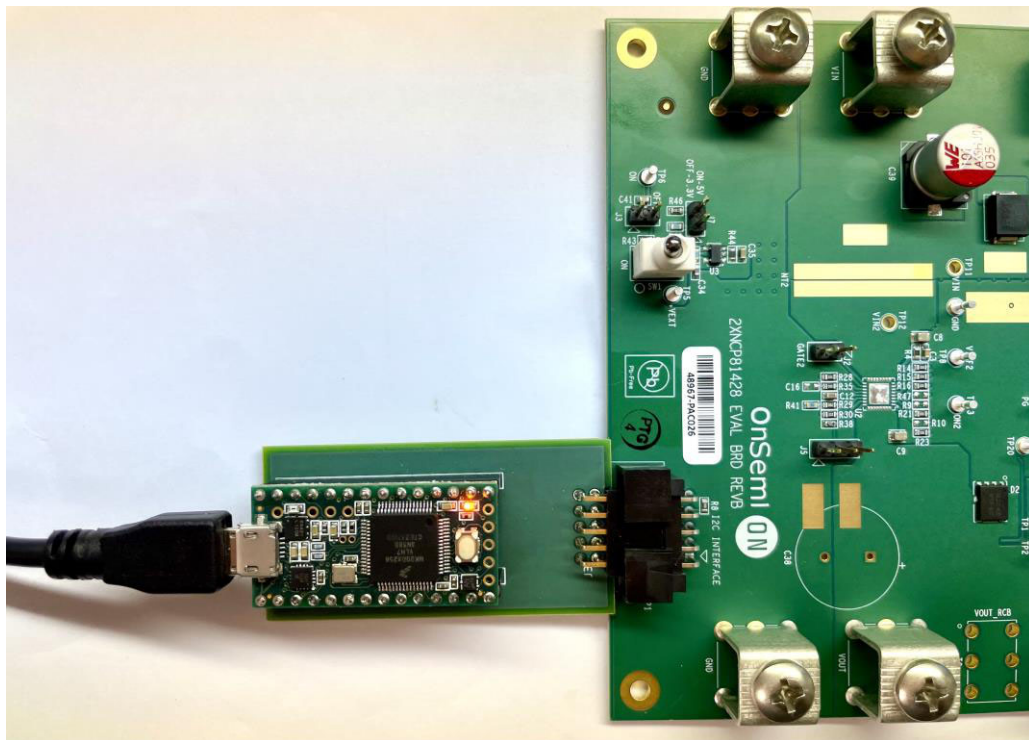

Figure 2. Evaluation Board PMBus Interface Module Connection Diagram
- a. Connect the PMBus Interface Module with the NCP81428 EVB through the I2C Interface Header JP1, as shown in Figure 2.